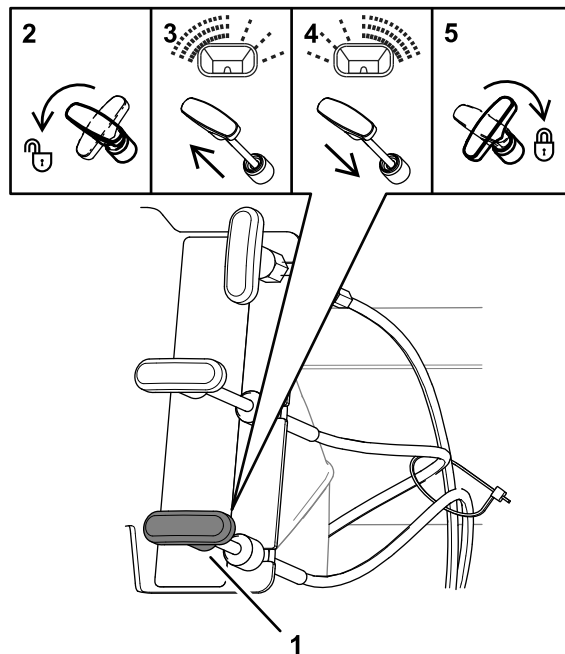

Figure 25
1. Unlock the diffuser control by turning the handle counterclockwise 90° as shown in 2 of Figure 25.
- If the material is broadcast too heavy at the left side of the machine, push the diffuser control down slightly; refer to 3 of Figure 25.
- If the material is broadcast too heavy at the right side of the machine, pull the diffuser control up slightly; refer to 4 of Figure 25.
3. Lock the spreader-pattern control by turning the handle clockwise 90°; refer to 5 of Figure 25.